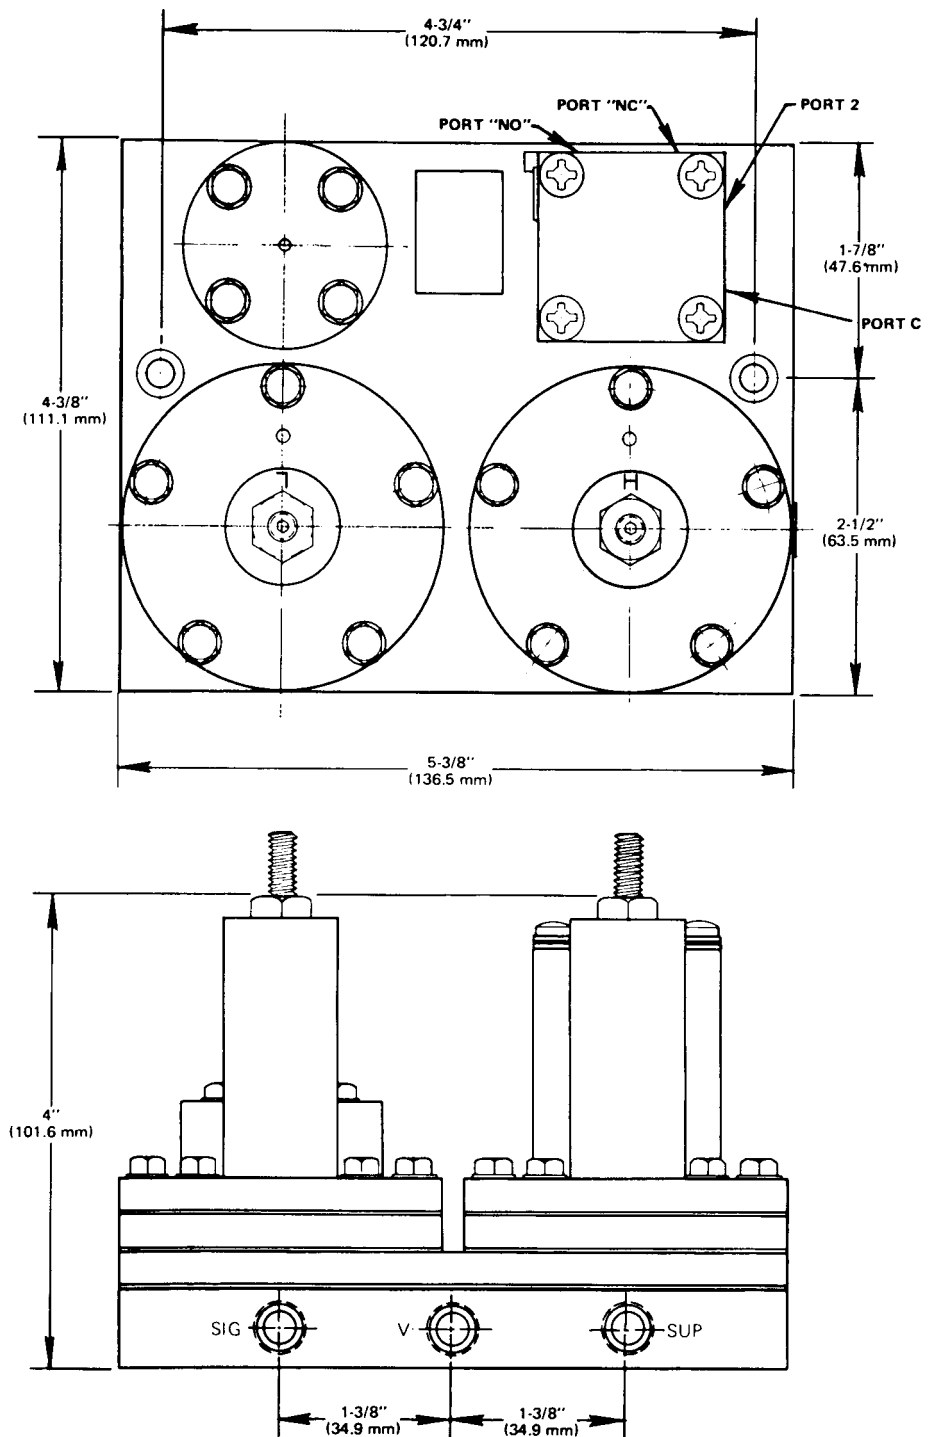

Figure 1
**Dimensions** ..... See Figure 1
The relay may be installed in any position. The relay should be securely mounted, using the two holes (clearance for No. 10 screws), provided in the sub-plate. (See Figure 1.)